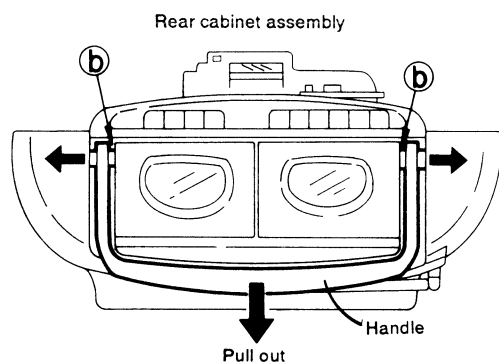

Fig. 2-3
1. Remove the handle (Fig. 2-3).